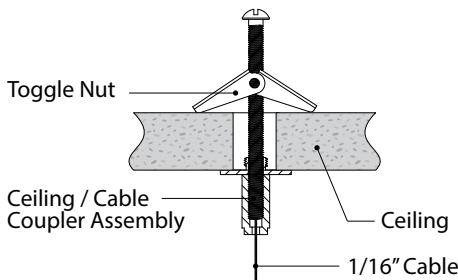

FIGURE 3
2. With Toggle Nut Expanded tighten Cable Coupler until Ceiling stays tight between Toggle Nut and Cable Coupler. *See Fig 3.*
3. Screw Ceiling Coupler Cable Assembly onto screw. *See Fig 3.*